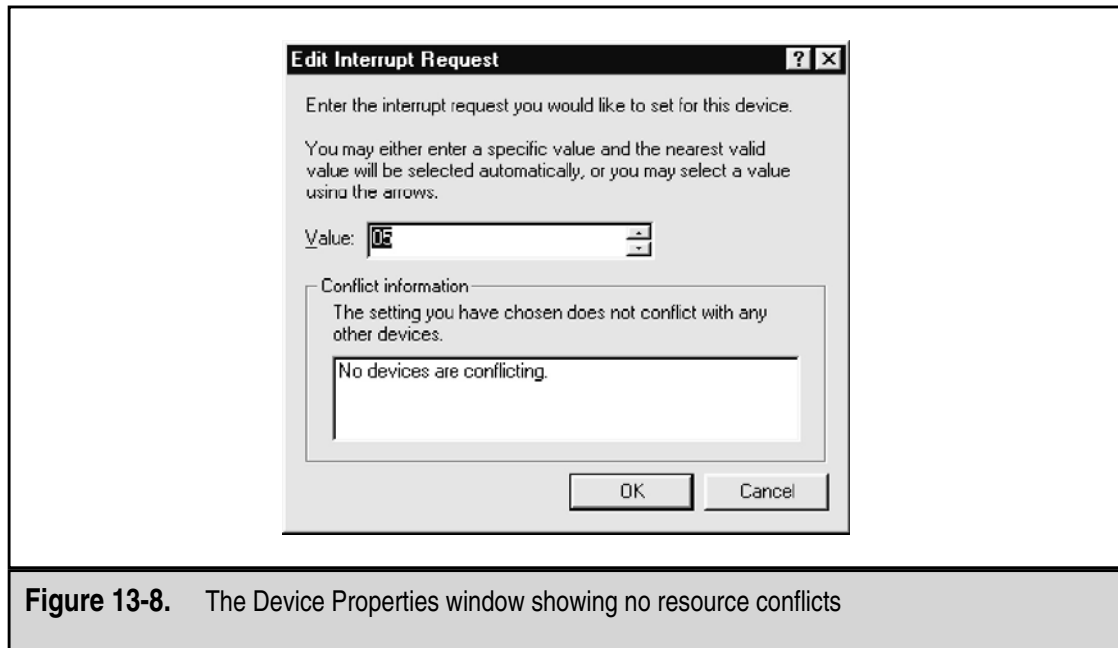

Figure 13-8. The Device Properties window showing no resource conflicts
5. Highlight the IRQ setting and click the Change Resource button to open the display shown in Figure 13-8.